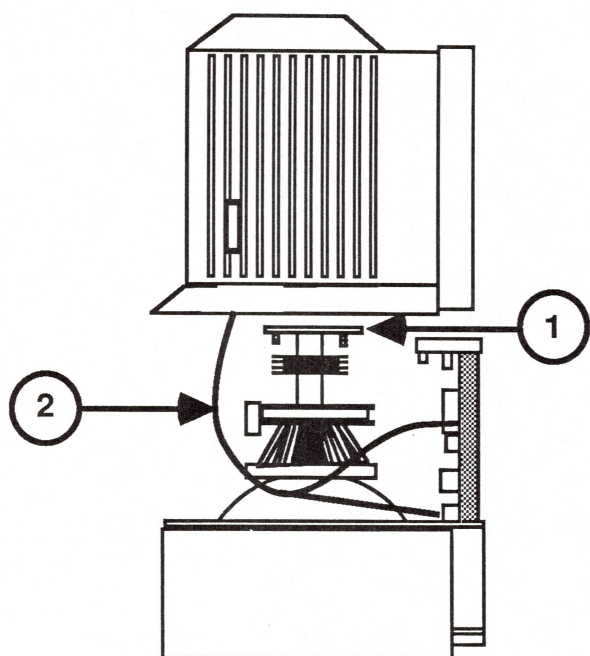

FIGURE 3
6. Carefully pull the rear cover up until it clears the CRT socket board (Figure 3, #1) at the end of the CRT neck.
**CAUTION:** Because the power (on/off) switch is attached to the rear cover, the power switch cable (Figure 3, #2) will prevent you from removing the cover completely until the on/off switch bracket is disconnected from the rear cover, as directed in Step 9 below.